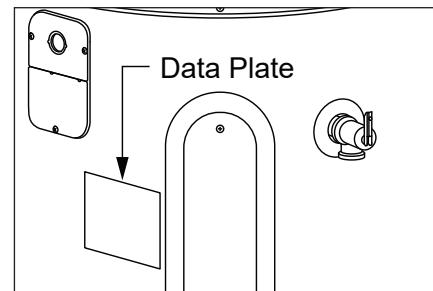

Figure 24 - The water heater's electrical requirements can be determined from the data plate.
- 3** This water heater requires a 208/240 VAC single phase 30 amp power supply, at 50Hz or 60Hz. Check the water heater's data plate (Figure 24) and ensure that the home's voltage, wiring size (ampacity) and circuit breaker rating and type are correct for this water heater. Refer to